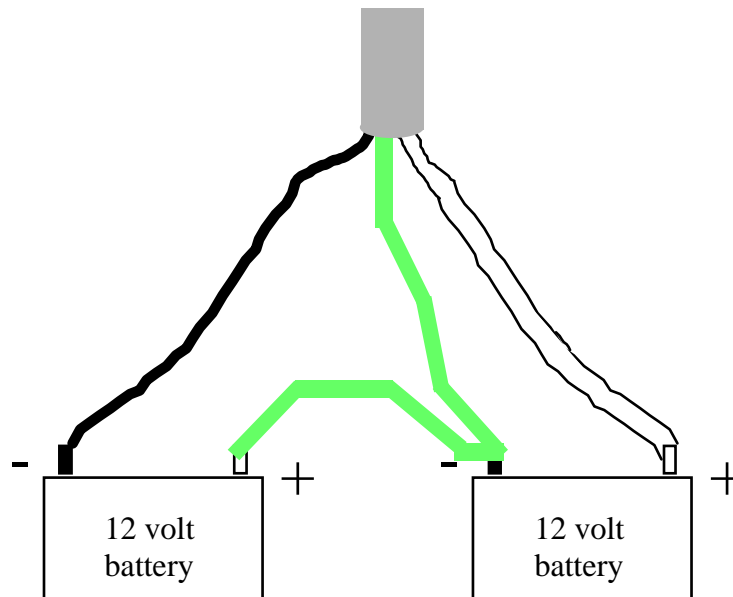

Figure II.3 -- Power cable connections.
Make sure the power is *not* plugged into the power cable receptacle (5). Attach the spade ends of the shielded power cable with its integral power filter and conditioner to the two 12 volt batteries as illustrated in Figure II.3 below. The black wire is connected to -12 volts, the white wire to +12 volts, and the two-conductor green wire is connected as the power ground tying the + terminal on one battery to the terminal on the other.